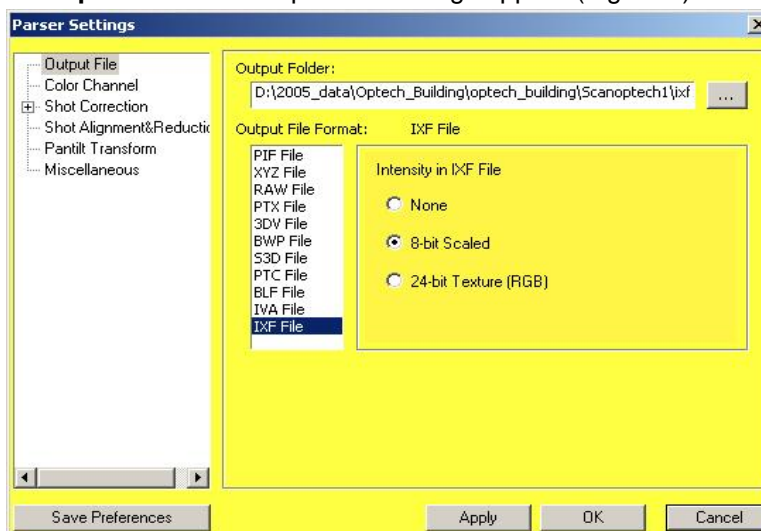

Figure 2: Output file settings
| Figure 2: Output file settings | 2 |
4. Select **Settings > Output File**. The Output File settings appear (Figure 2).